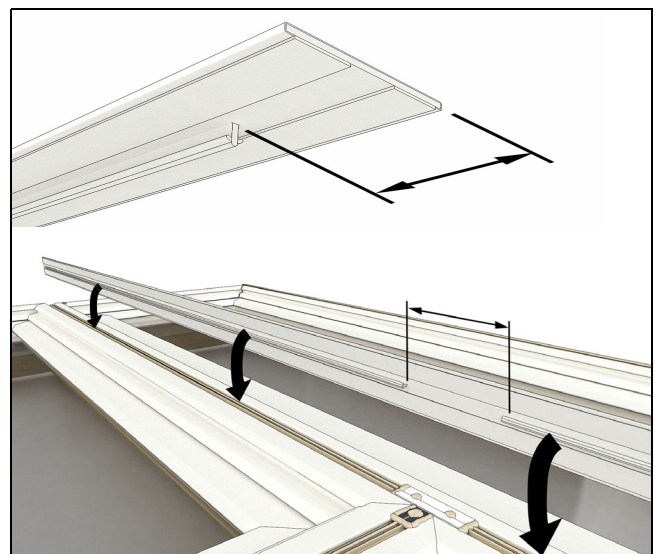

Figure 40
21. Notch exterior mull cover to fit over end plugs by 1" +/- 1/4" from end. Notch the cover to fit over center plugs within 1/4" as seen in Figure 40.